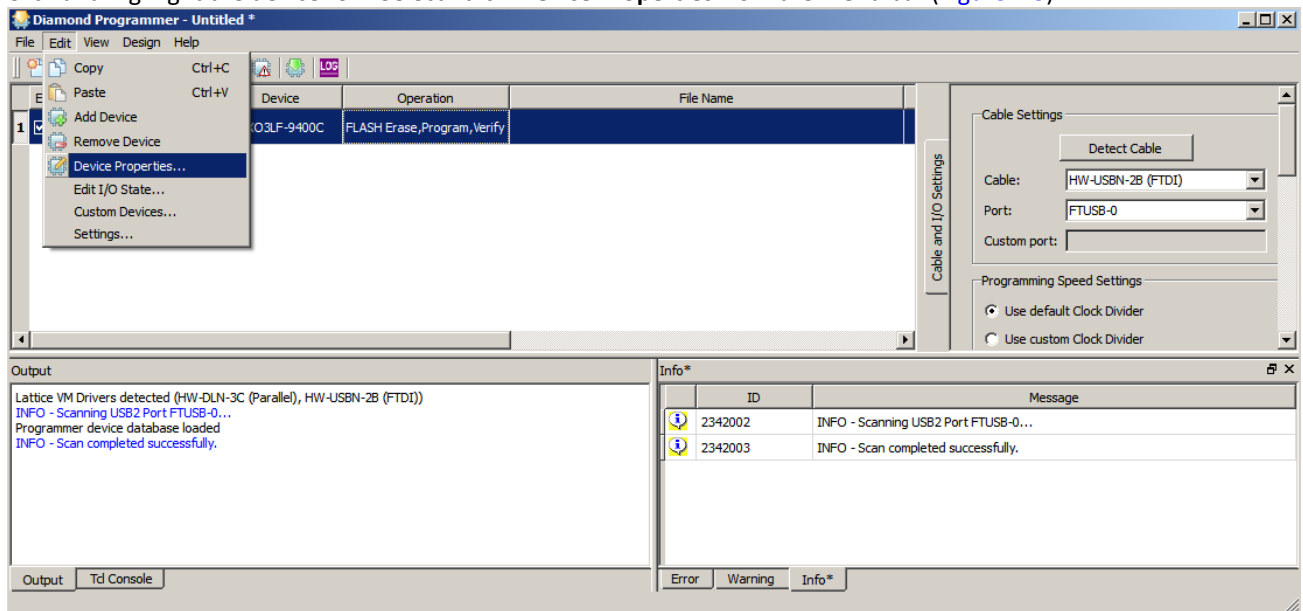

Figure 7.3. Editing Device Properties
- Click and highlight the device row. Select **Edit > Device Properties** from the menu bar (Figure 7.3).